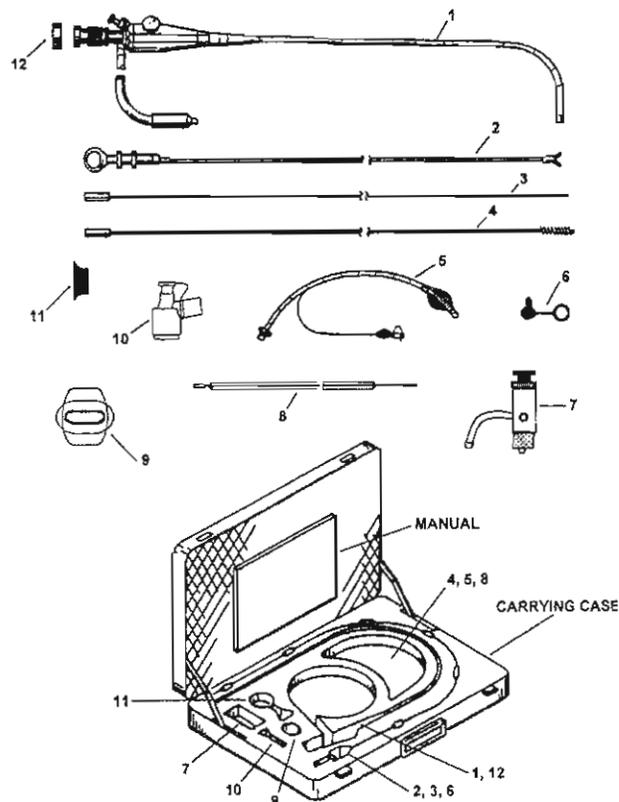

Figure 3-1. Components and accessories.
- e. Observe how the components and accessories are packed into the case (fig 3-1). The numbered callouts of the components and accessories correspond to the numbered cutouts.